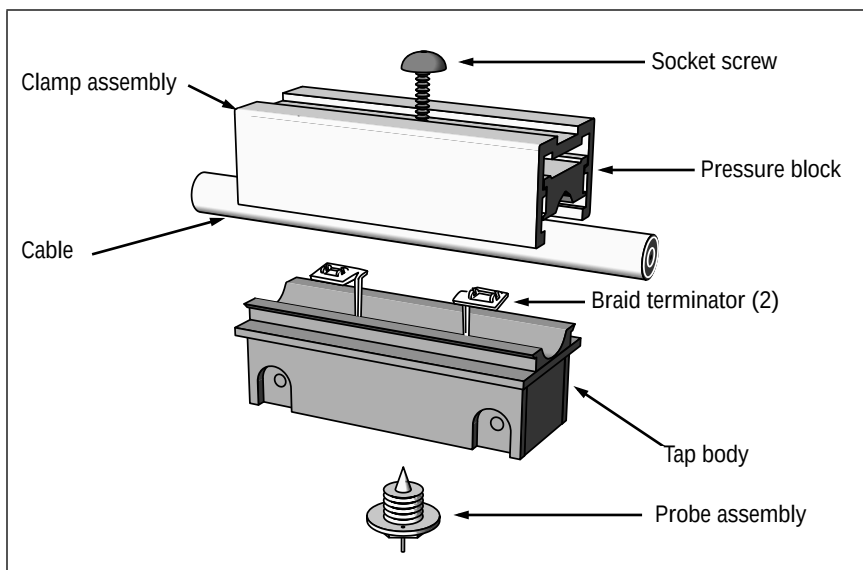

Figure 2: Assembling the Coaxial Active Tap
2. Insert the two braid terminators into the tap body. Refer to the exploded view of the tap in Figure 2.